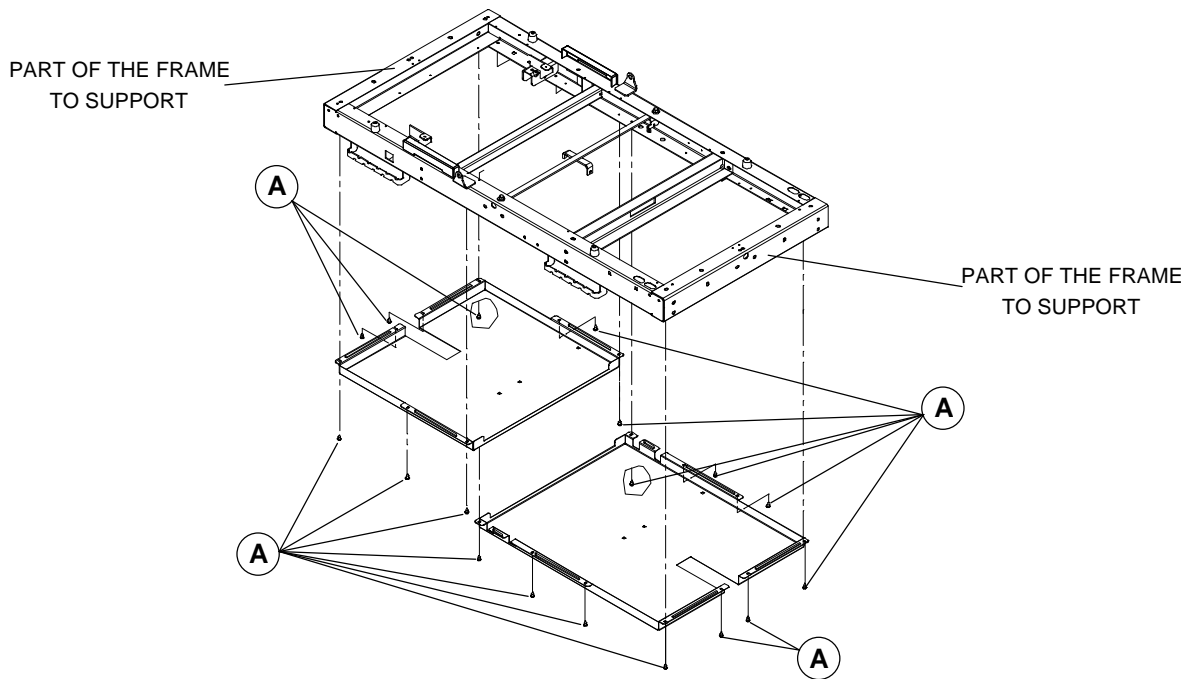

Figure 3.1A
2. Using a Phillips screwdriver, remove the 18 screws (A, fig. 3.1A) holding the lower head and foot cover plates. Remove the two cover plates.